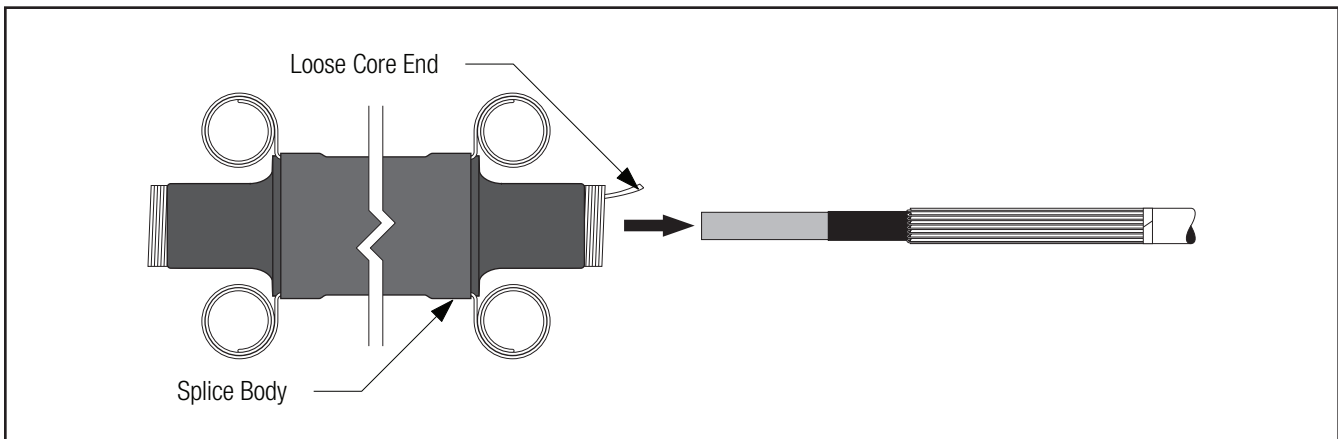

Figure 3
- 2.4 Clean or cover cable jacket if necessary, for cold shrink parking position. Slide splice body onto cable, loose core end first. (*Figure 3*).